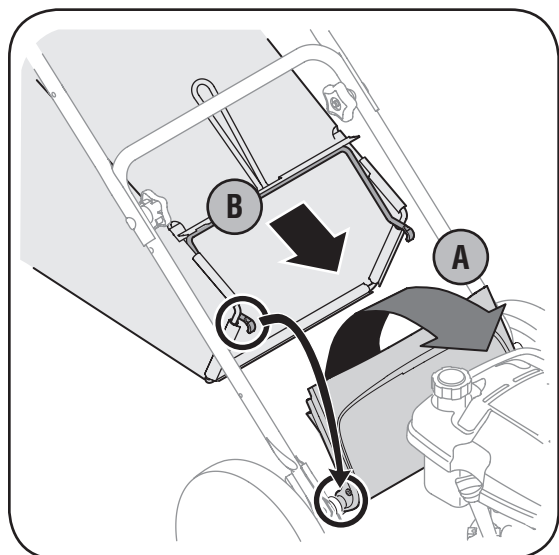

Figure 3-6: Attach the grass catcher.
- a. Lift rear discharge door, Figure 3-6.